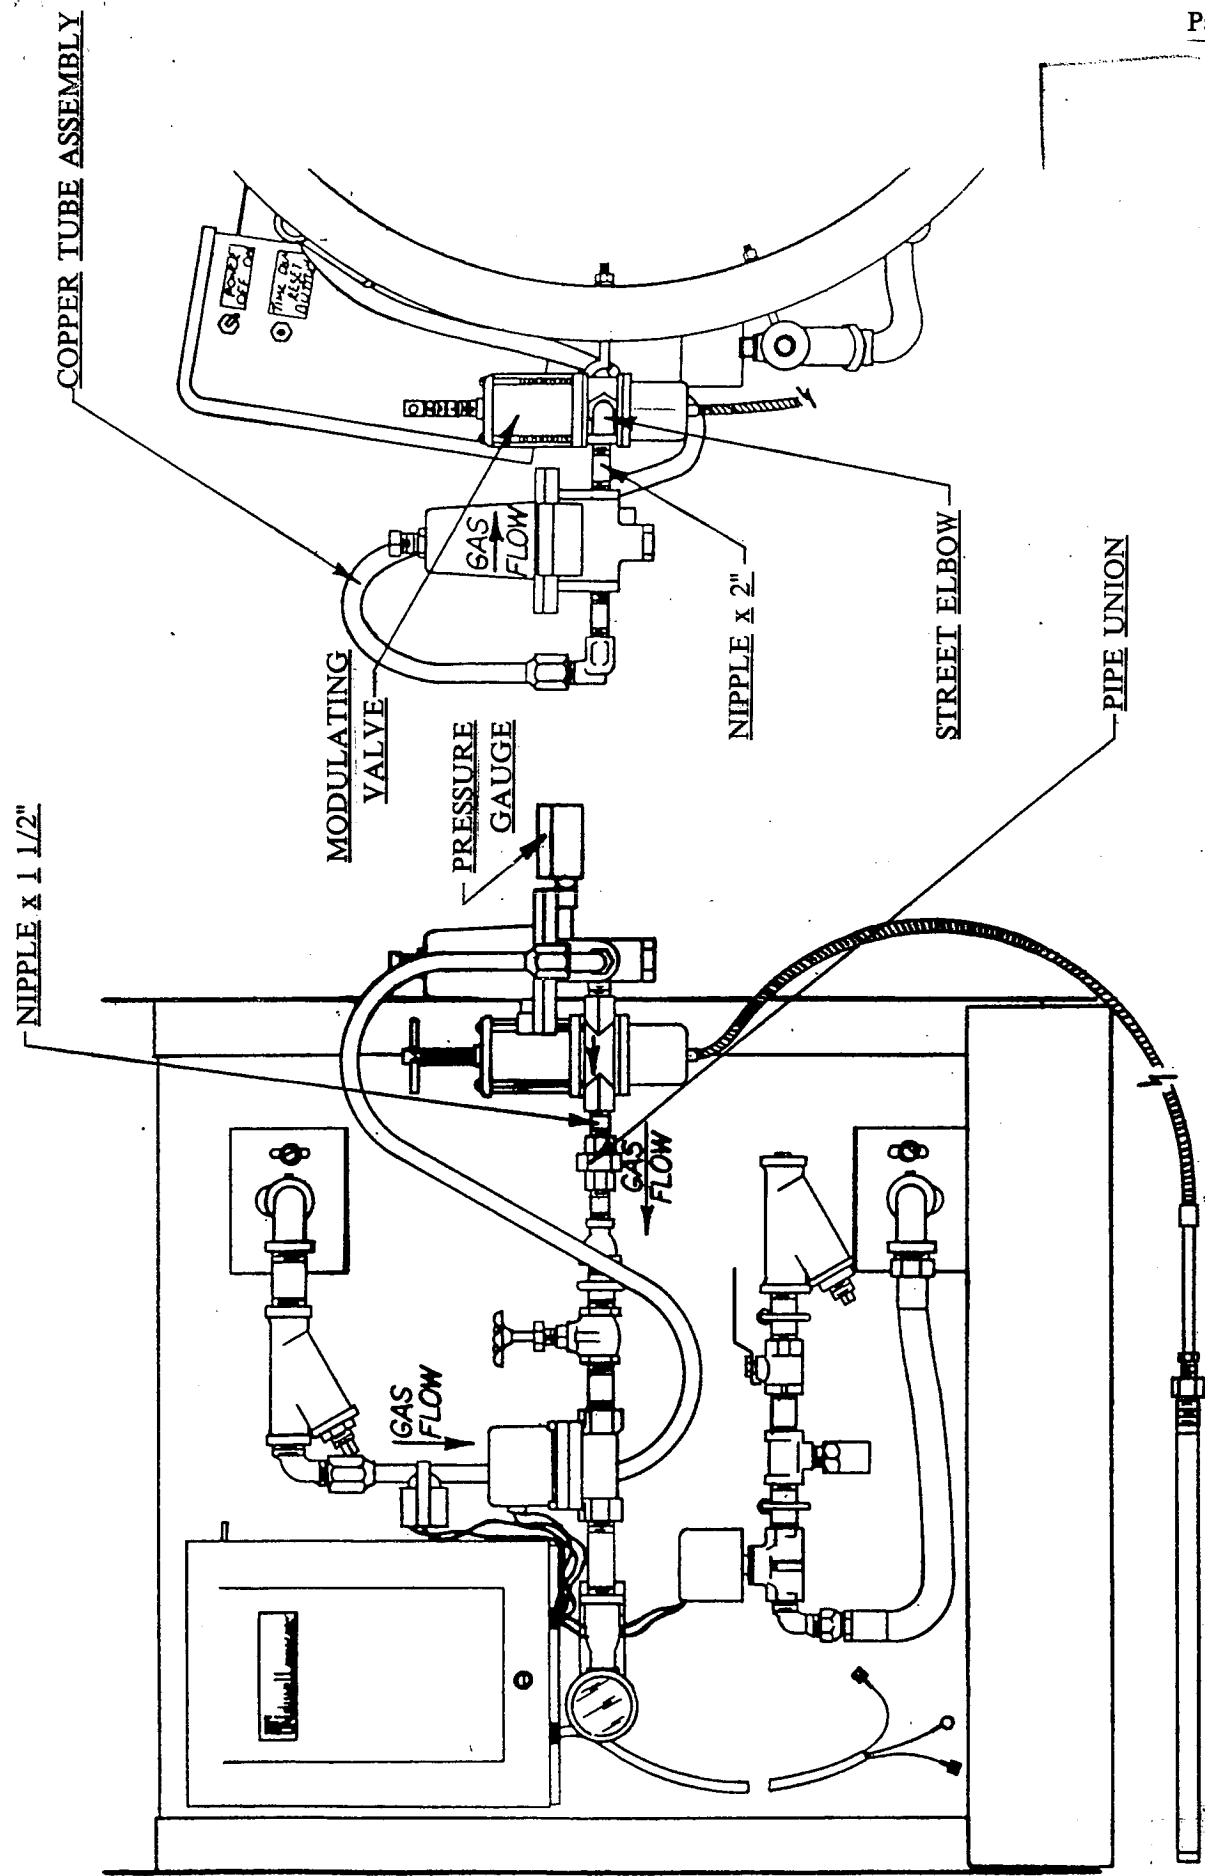

FIGURE 1. ILLUSTRATION OF MODULATING VALVE INSTALLED
Standing facing the burner in the direction of the air flow you will note the plumbing on the right side of the heater. Installation of the modulating valve will require rearrangement of the plumbing. Figure 1 illustrates how the plumbing will appear when properly rearranged and assembled. Follow the following steps to install the modulating valve.
3. **Assemble the modulating valve plumbing.** Take the modulating valve and holding it such that the gas flow arrow is as shown in Figure 1. Thread the 1/2" street elbow in the right side of the valve. Install the 1/2" x 1 1/2" nipple in the left side of the valve. Secure one half of the 1/2" union pipe onto the 1/2" x 1 1/2" nipple, and the other one-half onto the 1/2" x 1 1/2" nipple which was left intact with the plumbing assembly.
4. **Reassembling the regulator-mod valve.** Thread the 1/2" x 2" nipple into the street elbow. Thread the regulator onto the 1/2" x 2" nipple. Now connect the two halves of the 1/2" union together and tighten securely. Using the new copper tube assembly, reconnect the upper line strainer and the regulator inlet as shown in Figure 1. Replace the thermostat clip on the new copper tube assembly.
5. **Installation of regulator, pressure gauge.** Install the 0-60# pressure gauge on the pressure regulator as shown in Figure 1. To install the pressure gauge, the plug in the pressure regulator must be removed first.
7. **Assembly check.** After completing the assembly, check to see that all gas flows as shown in Figure 1.